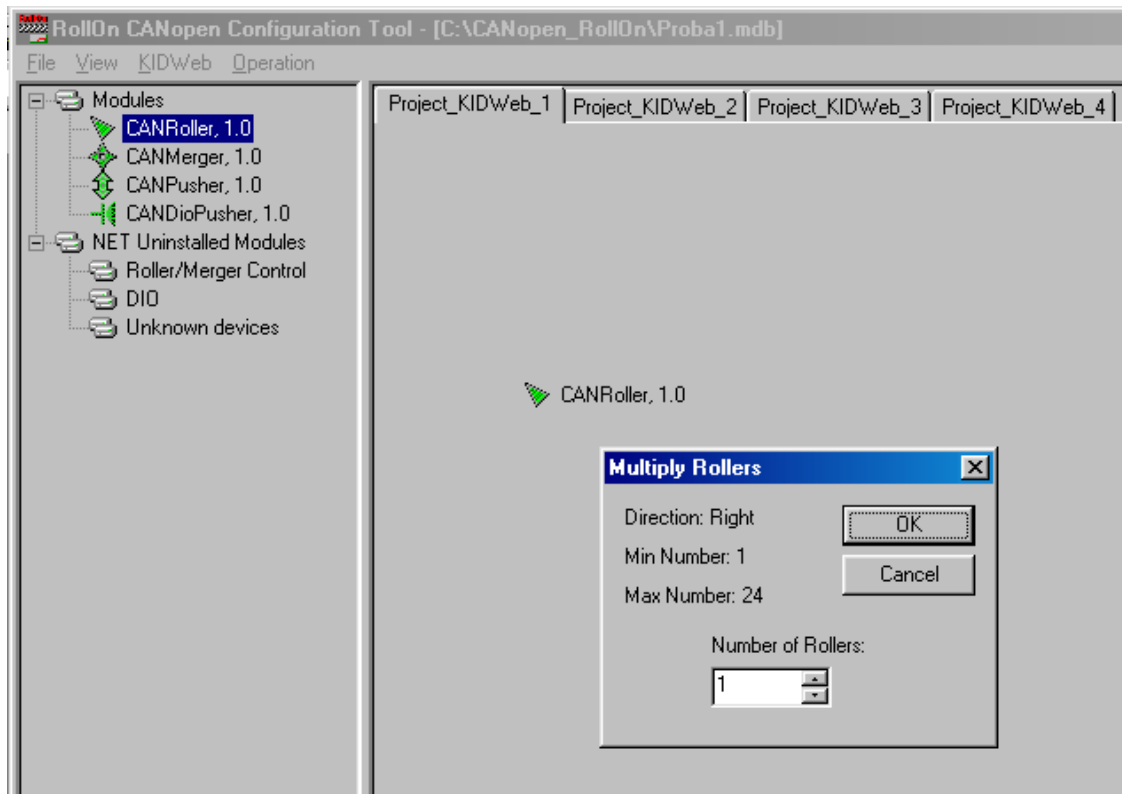

Fig. 4.11
- Drag the image on the desired place of the project field – the Roller's image accompanied by a **Multiply Rollers** dialog box appears – Fig. 4.11.